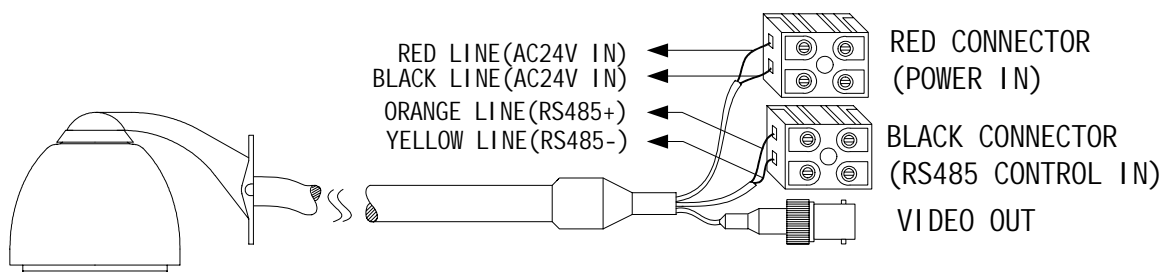

Figure 22
- 1) The cable wires as follows ( Figure22 ), Orange isRS485+, Yellow is RS485- ; While you are using AC24V power line , the red and black is the input side of the power ; BNC connector is the video-out side(**Take carefully while you connect these wires**).